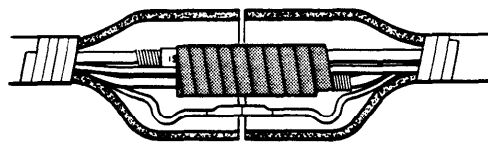

Fig 18a
- b. Wrap electrical tape securely around the fluid and air hose connectors (only) so the sharp metal edges of the connectors cannot damage the plastic connectors of the heat tapes. See Fig 18a.